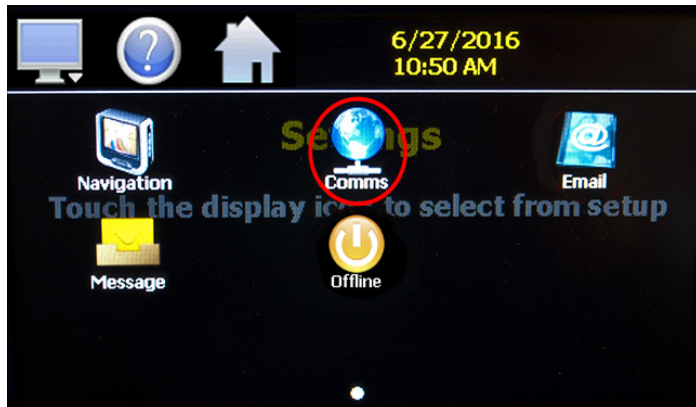

Fig. 99: COMMS Icon
1. To access the communication settings, select HOME - MONITOR - SETTINGS - MONITOR - COMMS icons (Fig. 99).